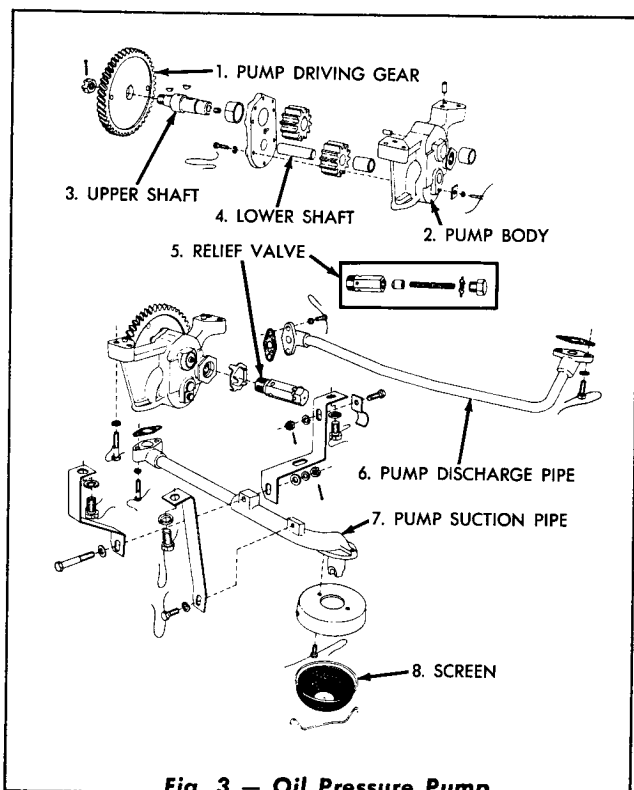

Fig. 3 — Oil Pressure Pump Assembly Details
B. Removal (Fig. 3)
E. Assembly (Fig. 3)